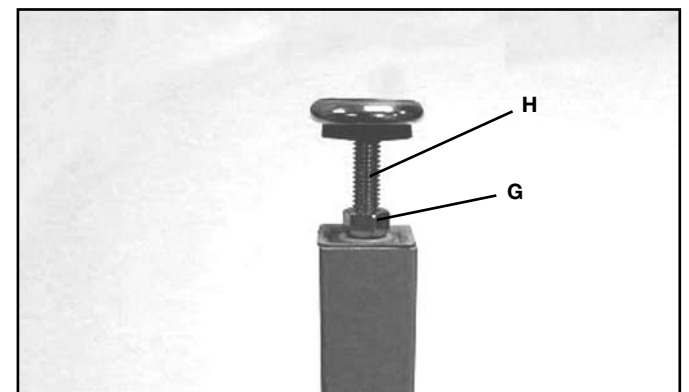

FIG. 10
- Assemble the 3/8" jam nut (G) onto leveling screw (H). Thread leveling screw into bottom of support leg. Fig. 10 illustrates the foot leveling assembly on the table leg. Assemble the remaining foot assembly to the other leg in the same manner. NOTE: Height adjustment will be made later.